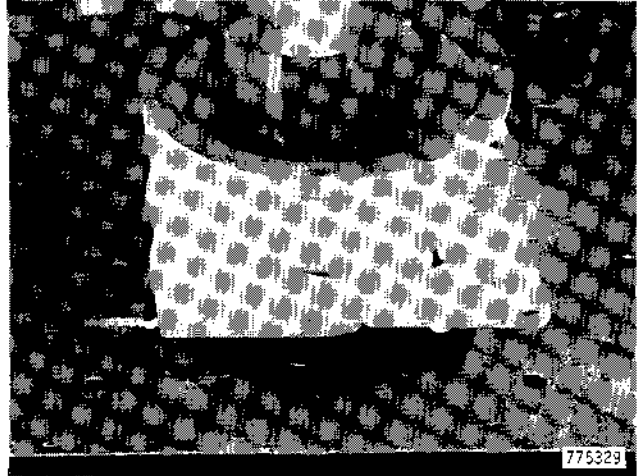

Figure 53
2. If needle roller bearings were removed, place housing in a press and, using bearing tool shown on page 6431-3, press new bearings into housing, Figure 53. Press bearings flush with housing. Do not drive bearings into housing with a hammer; damage to needle bearing rollers will result.